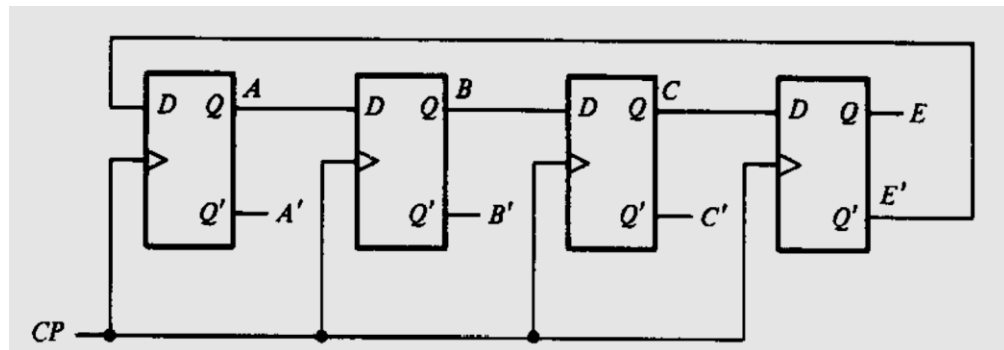

Figure 10.3 4-bit Johnson counter
- Fig. 10.3 shows a 4-bit Johnson counter